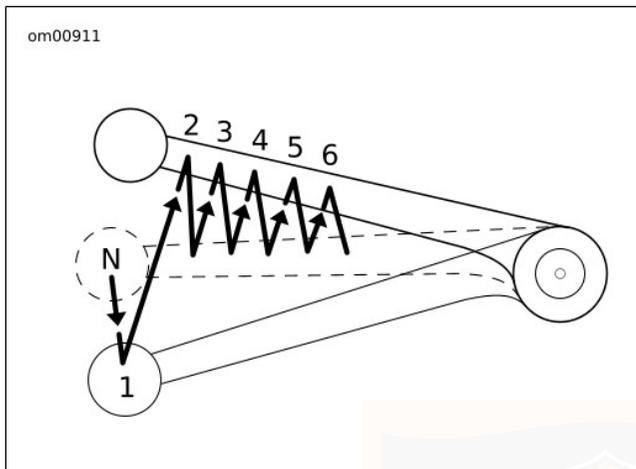

Figure 38. Shifting Sequence: Upshift
1. See Figure 38. Close the throttle.